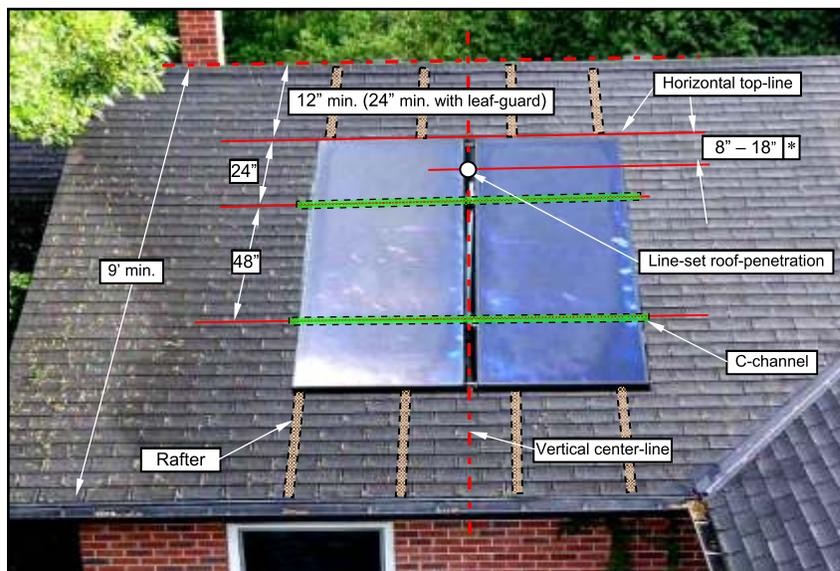

Fig. 5.1.2 – Collector mounting details.
3. Roof-penetration must be between collectors (or immediately next to collector on connection side of single-collector installation). Roof-penetration will serve as landmark to determine position of collectors and of C-channel (Fig. 5.1.2).
4. Collector dimensions are 46¼" wide x 96¼" tall (1175 mm x 2445 mm). A minimum of 10' (3000 mm) of roof slope is needed if leaf-guard is to be installed (leaf-guard is optional with 1 and 2-collector appliances, included with 3- and 4-collector appliances). Only 9' (2740 mm) of roof slope is needed for installations without leaf-guards. A minimum of 24" (610 mm) is required above collector if leaf-guard is to be installed. Only 12" (305 mm) is needed above collector for installations without leaf-guards, unless otherwise stated by local regulations (Fig. 5.1.2).
5. With this information and referring to Fig. 5.1.2, mark position of collector(s) and of C-channel. Note that when collectors are secured, the distance between them will be approximately 5.75" (146 mm).
6. Collector mounting points are 48" (1220 mm) apart. C-channels must be mounted horizontally (use level), 48" (1220 mm) apart, center to center (Fig.5.1.2).